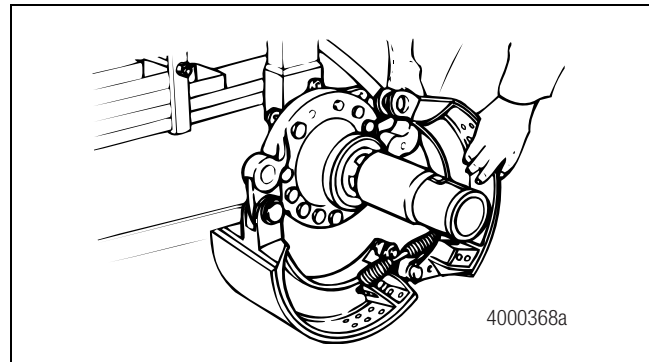

Figure 5.26
7. Install a new shoe return spring onto the brake shoe. Figure 5.26. Place the upper brake shoe into position over the spider. Repeat Steps 4-5.